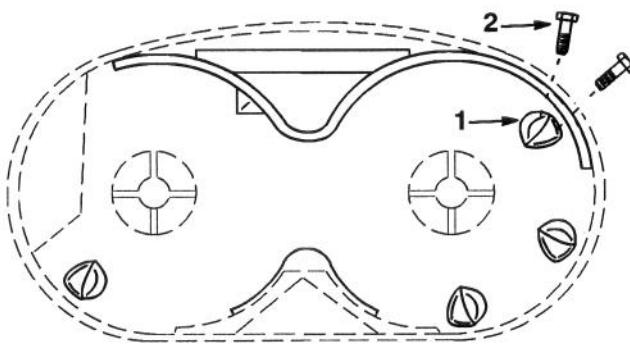

Figure 3
1. Install kicker plates with holes toward top of deck using #8 x 5/8" screws (Fig. 3). Screws are installed from top of deck. Long slope on kickers must be positioned in a clockwise direction as viewed in Figure .